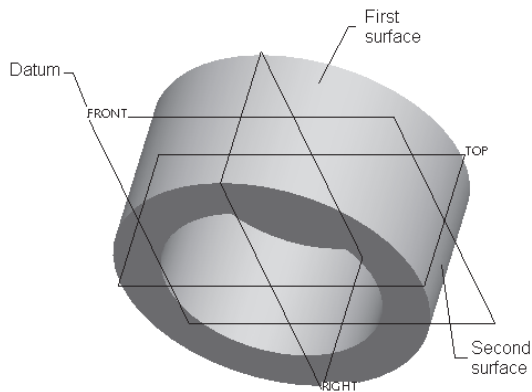

Figure 8-47 Selections made on the model
4. Use CTRL+left mouse button and select the top and the bottom circumferential surface of the cylindrical feature, as shown in Figure 8-47.